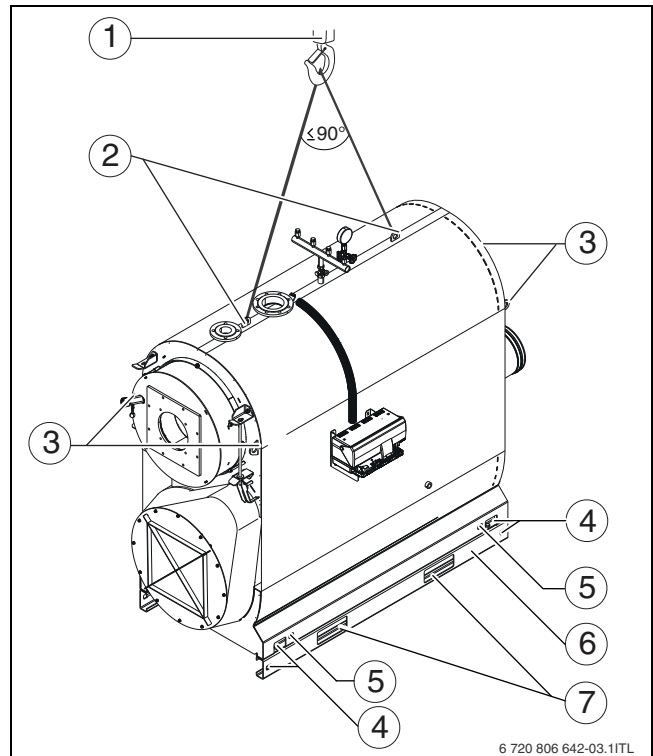

Fig. 8 Lifting the boiler with a crane
- ▶ Insert the hooks of the lifting tackle into the eyes in both gusset plates (→ fig. 8, [2]) of the boiler body.
- ▶ Attach the crane hook to the lifting tackle (→ fig. 8, [1]).
- ▶ Lift the complete boiler with a pallet truck (according to chapter 4.1.4, page 17) or from one side with a trolley jack (→ fig. 8, [5], page 16).